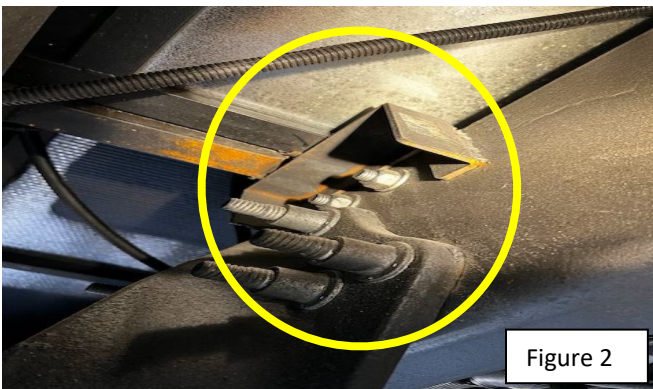

Figure 2
2. Check the horseshoe (Figure 2 above) for damage. The picture above shows one example of a horseshoe, depending on the location, it can look different from the picture below.